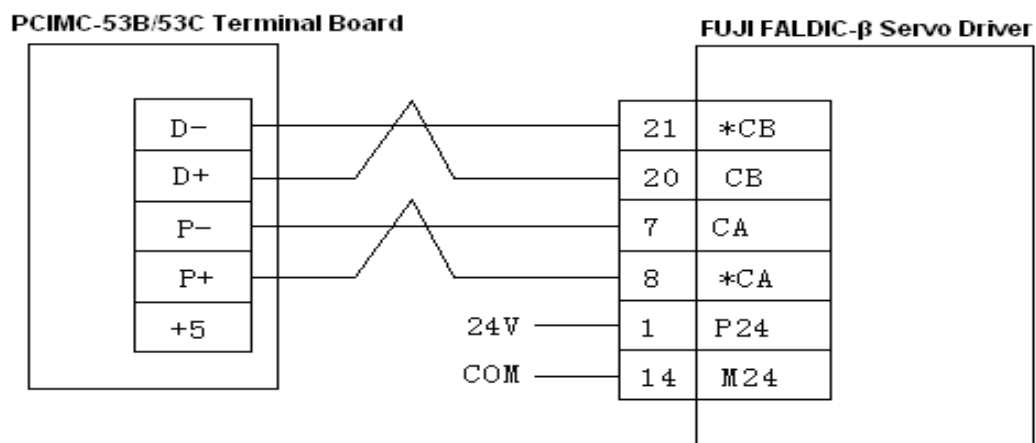

Fig. 4-16 Connection between Terminal Board EX1D and FUJI FALDIC-β Servo Driver
- 1) Wiring diagram of connection between terminal board EX1D and FUJI FALDIC-β servo driver is shown below in Fig. 4-16: